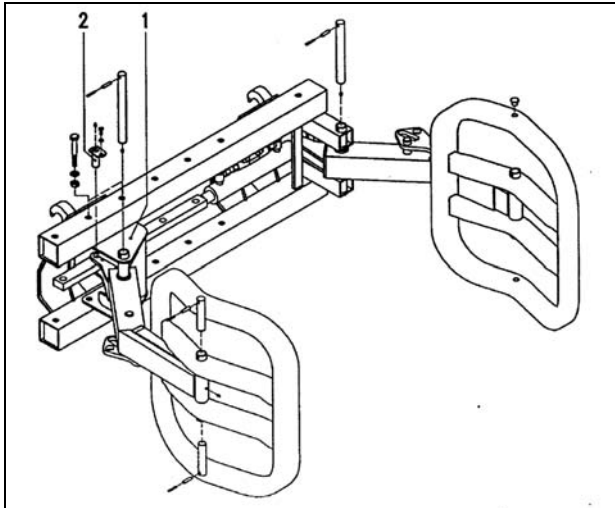

Fig. 10: Adjusting the bale gripper to different bale sizes
1. Adjust the gripper to the bale size to be loaded by moving the right hand bracket (Fig. 10, pos. 1) and the cylinder pin (pos 2) to fit the bale size